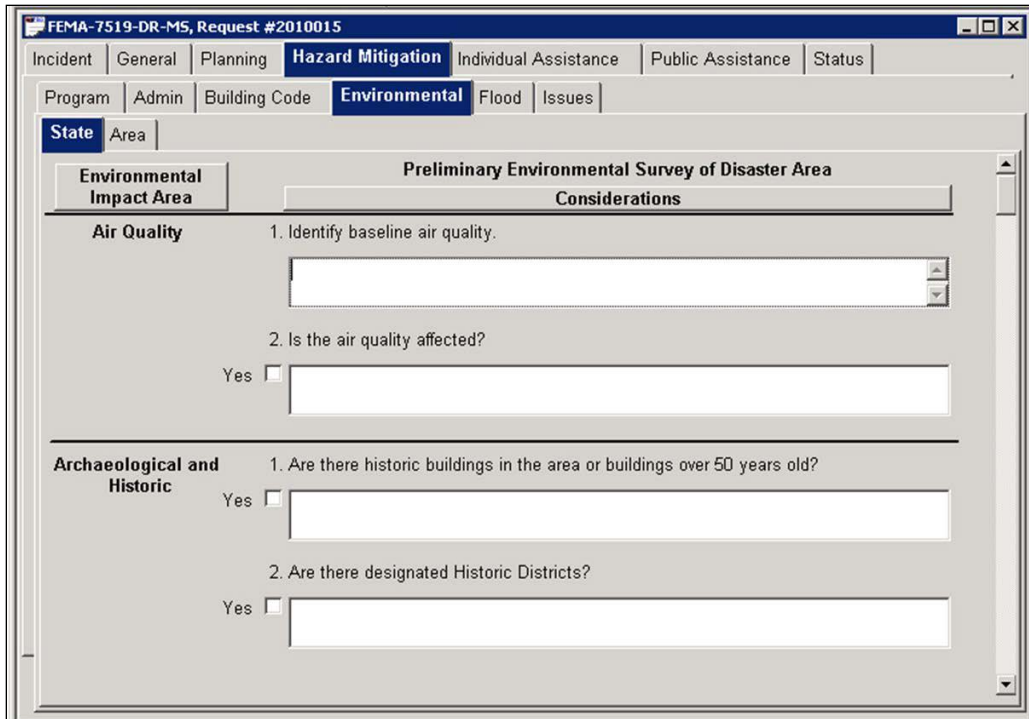

Figure 3-10: PDA > Hazard Mitigation > Environmental > State Tab
- e. The fourth sub-tab under **Hazard Mitigation** is **Environmental**. Enter environmental and historic preservation information specific to states and localities (Figure 3-10).